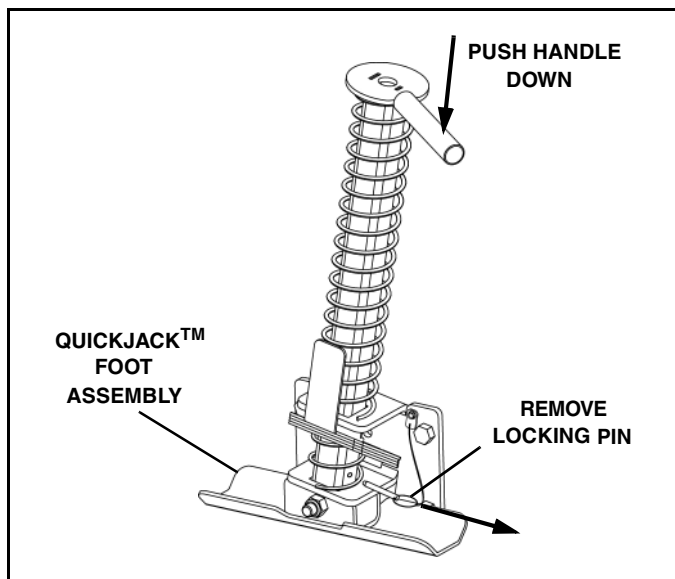

Figure 1-27
24. Raise the rear of the plow assembly, remove the QuickJack™ locking pin and push the handle down to fully lower the foot assembly. (See Figure 1-27).